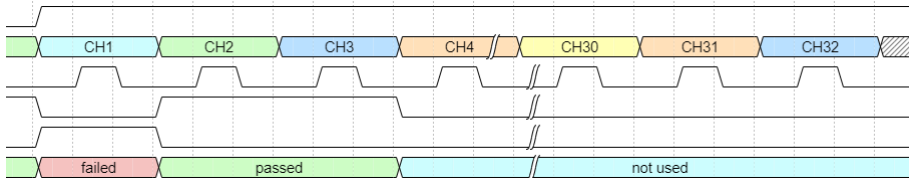

Figure 15: Control Interface: after overall project end, all channel results are reported sequentially - timing diagram (500us/div)
- when BUSY_N signal goes high, the channel results of the entire sequence of channels (CH1..CH32) are reported on CH_INDEX[4..0], FAIL_CH, PASS_CH and VALID_CH (figure 15).